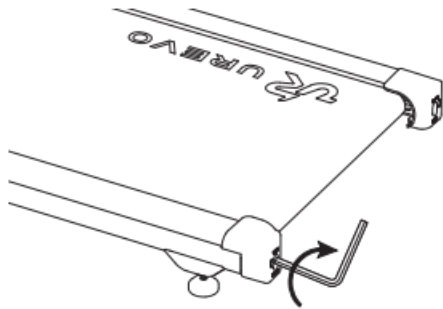

Figure 1
- If the walking belt has shifted to the left, use the hex tool to turn the left idler roller screw clockwise by a 1/4 turn (see Figure 1).